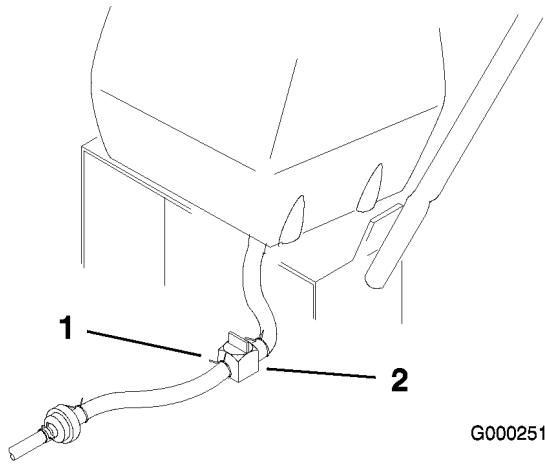

Figure 41
2. Close the fuel shut-off valve at the fuel tank (Figure 41).
3. Squeeze the ends of the hose clamp together and slide it up the fuel line away from fuel filter (Figure 41).
4. Pull the fuel line off the fuel filter (Figure 41). Open the fuel shut-off valve and allow the gasoline to drain into a gas can or drain pan.
3. Close fuel shut-off valve at fuel tank (Figure 41).
7. Open fuel shut-off valve at fuel tank (Figure 41).